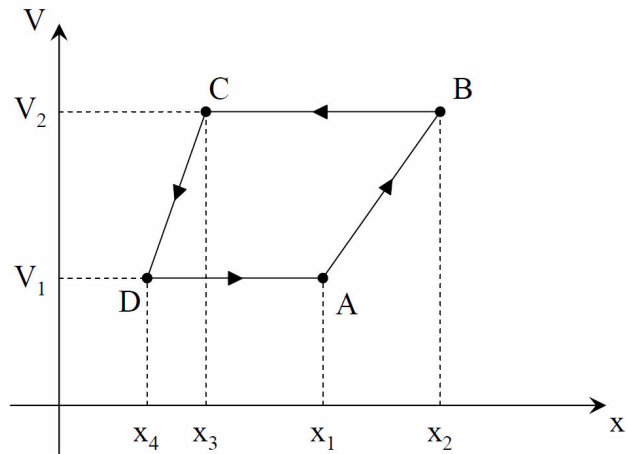

FIGURE 1. Voltage-gap ( $V - x$ ) diagram for the closed cycle (see text).
Using the same notation than in Ref. 1, the closed cycle considered by the author is the following (see Fig. 1 in [1]):
As we can see, from this analysis we conclude that  $x_4$  is the smaller and  $x_2$  the biggest gap in the whole cycle. The ordering of the gaps is easy to understand analyzing the physical meaning of the process described by the cycle depicted in the  $(q, V)$  plane as shown in Fig. 2 of Ref. 1. The  $V - q$  diagram in Fig. 2 of [1] shows the following process: starting from point A, an increment of voltage at constant charge move the system at point B, then an increment of charge at constant voltage move the system to the point C, subsequently a decrease of the voltage at constant charge move the system at point D, and finally a decrease of charge at constant voltage return the system to the point A. From the formulas for the charge  $q = CV$  with  $C = \epsilon_0 A/x$ , we obtain that  $q = \epsilon_0 AV/x$ . Thus, from that result we can see that for the increment of charge from the point B to point C, a reduction of the gap ( $x$ ) is needed. However, in the Fig. 1 of Ref. 1 an increment of the gap ( $x$ ) is shown, in clear contradiction with the analytical results.
From the stated conditions to get mechanical work from the system and the Eq. (3) in [1], we obtain that  $q_3 > q_1$ . This result is implicit in Fig. 2 of Ref. 1. Also it is important to mention that the slope of the Steps I and III in the  $V - x$  diagram are proportional to  $q_1$  and  $q_3$ , respectively. Thus, after the analysis presented above, we can construct the correct  $V - x$  diagram in order to get mechanical work from the system, as shown in Fig. 1 of this comment.